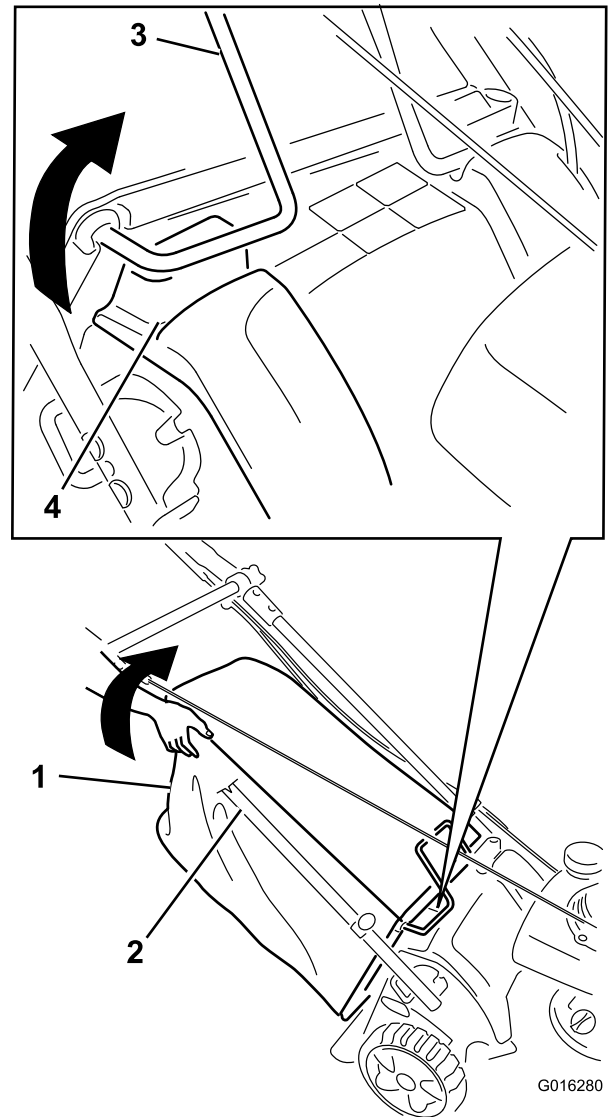

Figure 50
5. While the engine is running, lift up the upper right rear corner of the grass bag until the wire-bag frame at the upper right front of the grass bag is completely out of the right-hand slot (Figure 50). **The engine should stop.**